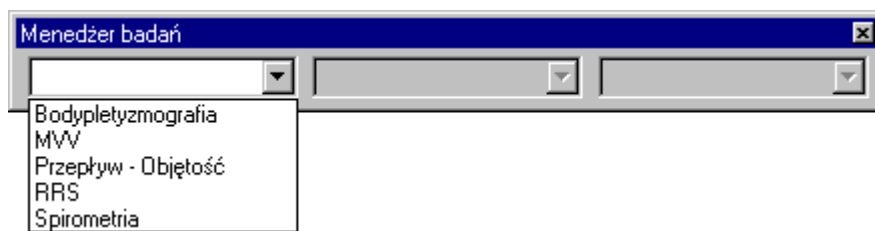

Fig. 14. Test Manager with the pulled out list *Test Type* .
2. Select *Load tests* (menu *File*). Then, a list of tests belonging to the patient will be loaded and the list *Test type* in *Test Manager* will be pulled out (⇒Fig.14).